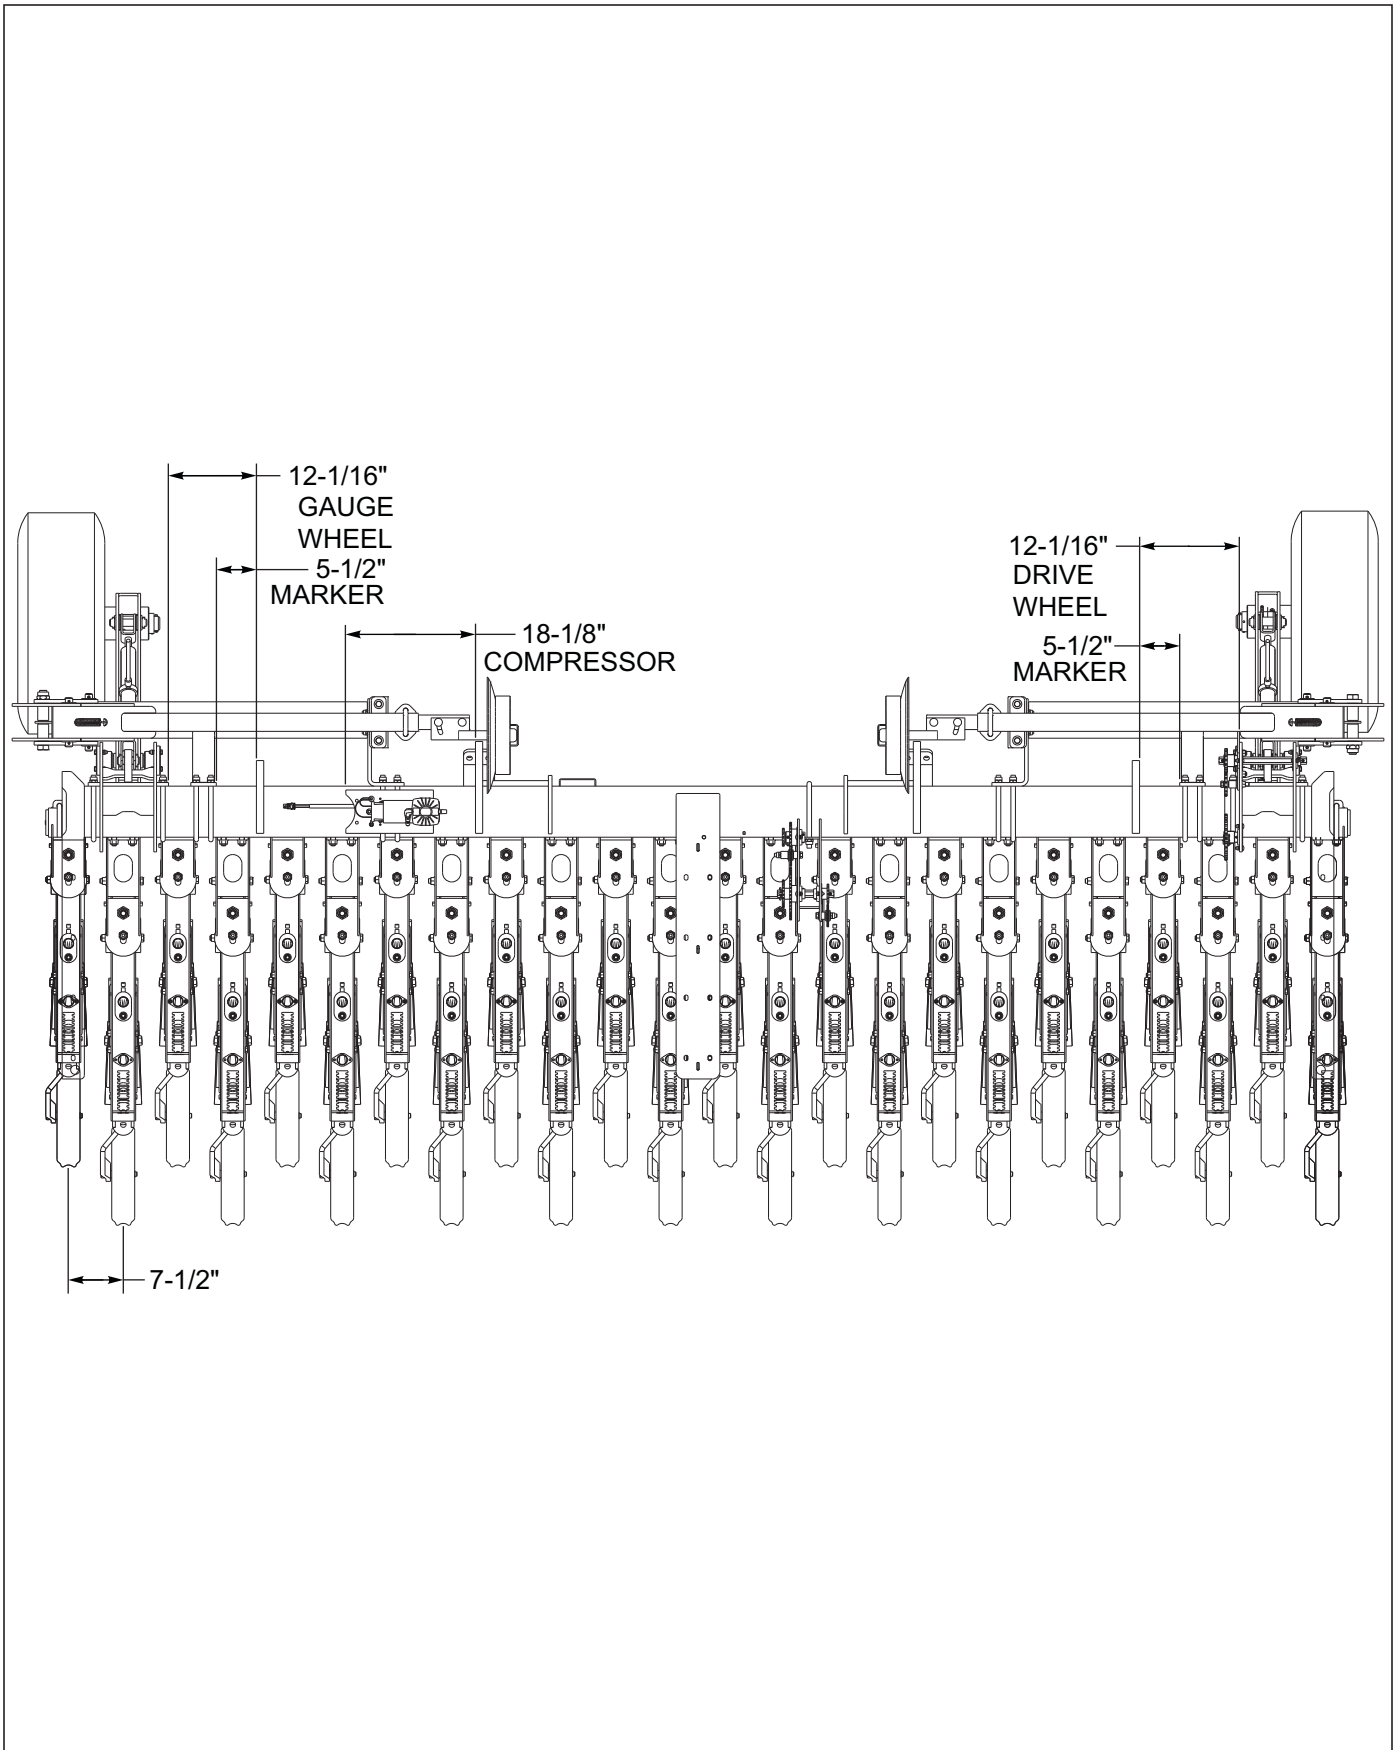

Figure 2-12: 5211-15' 7-1/2" 3-Point Placement
12. Remove existing 7/8 hex drive shaft above the drill 7 x 7 frame tube. Install the grass seed bracket and bearing to the rear of the main drill 7 x 7 frame. See **See Figure 2-12 for proper placement.** Reinstall the hex drive shaft, see placement dimensions.
13. Install the 24 tooth drive sprocket and locking set screw on the end of the hex drive shaft **See Figure 2-12 for proper placement.**